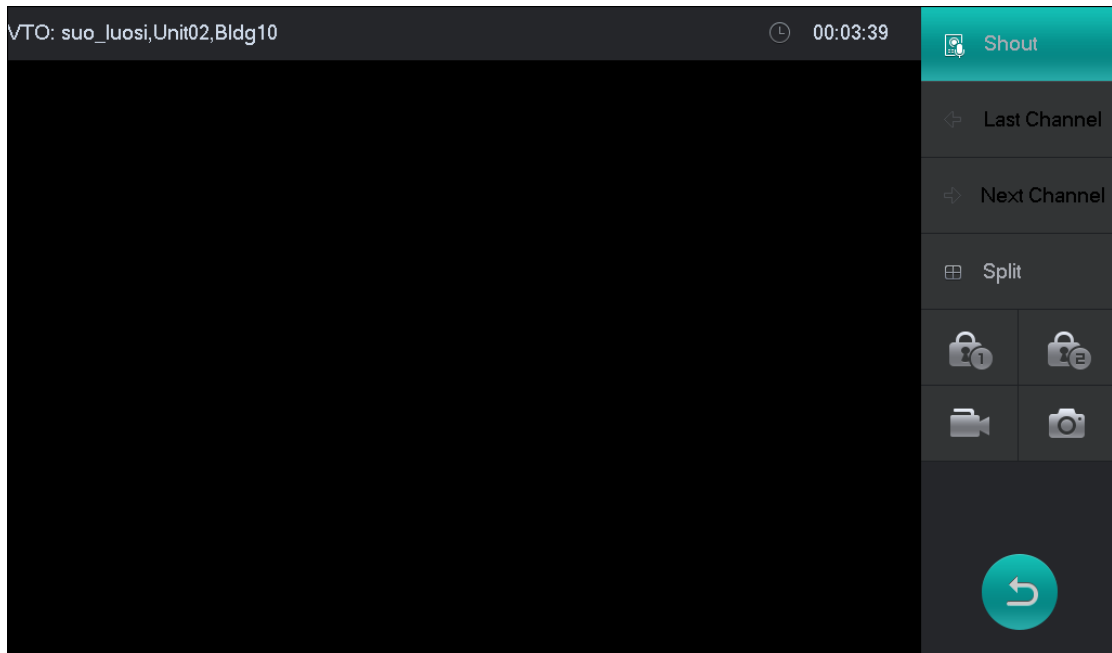

Figure 4-2
Step 2. Select VTO to be monitored. See Figure 4-2.